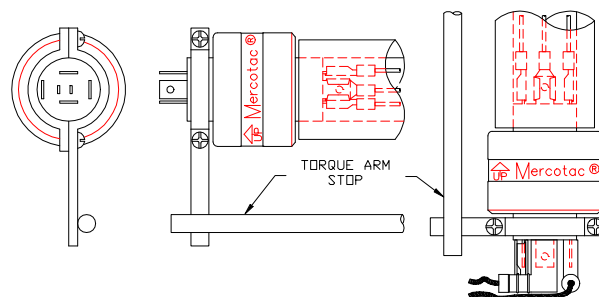

Fig 3 Floating Torque Arm Examples
4. Use stranded wires of ample length and flexibility to avoid mechanical loads. Avoid taut wires that pull on the connector. The wires should have enough free play to allow the connector end to rotate approximately 1/4 turn. Wires, which allow too much free play, could wrap around the connector. Generally wires are strong enough to restrain the stationary end of the connector. A floating torque arm attached to the stationary bushing may be used if the wires are not adequate. <Fig 3>